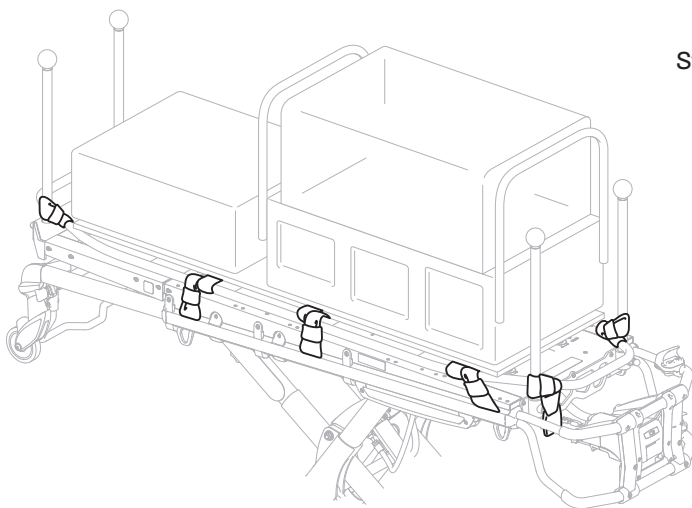

Figure 3
3. Confirm the Air Sled is secured to the receptacle as shown in the final installation view below (Figure 3).